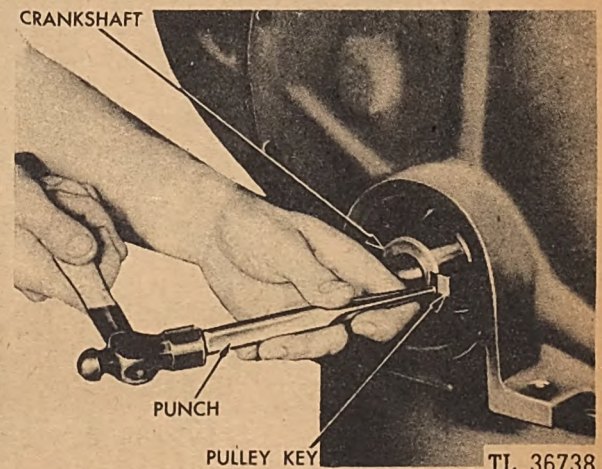

Fig. 86. Removing Crankshaft Pulley Key
(2) Drive the pulley key from the crankshaft with a brass drift and hammer. (See Figure 86.)